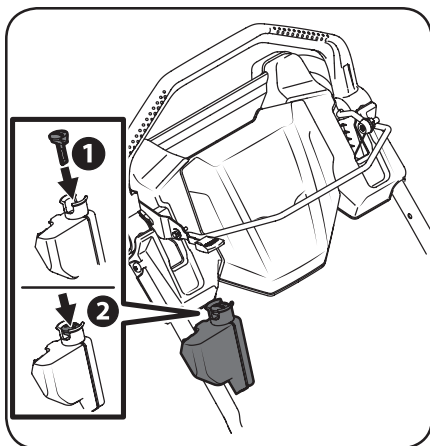

Figure 3-2
1. Insert plastic electric start push key into starter housing located on the right side of upper handle until it snaps in place. See Figure 3-2.